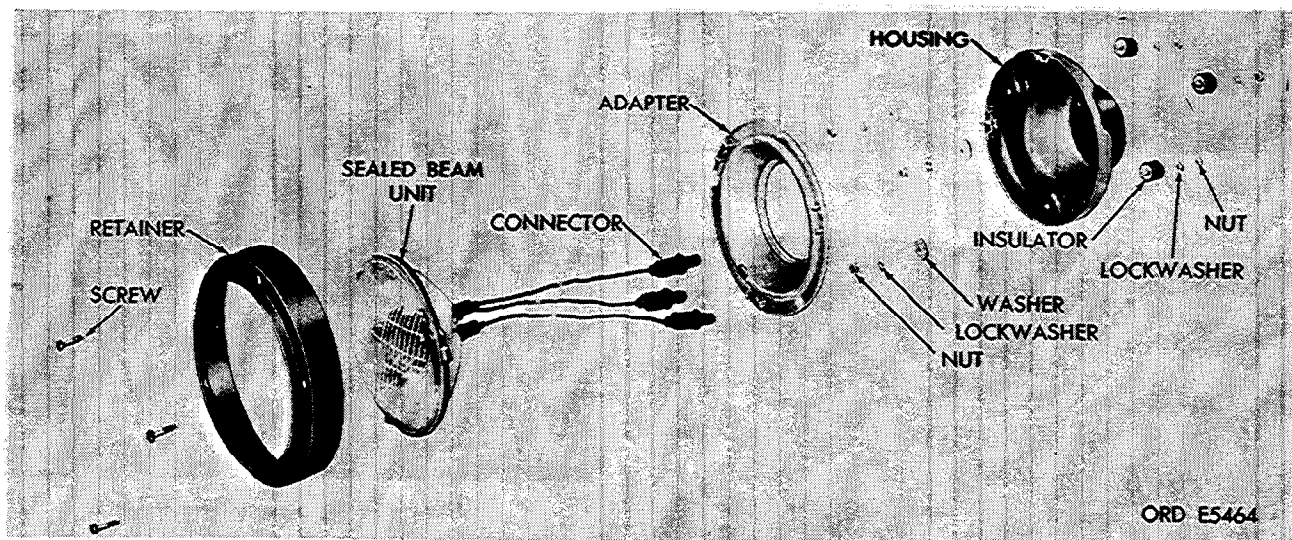

Figure 2-194. Headlight assembly—exploded view.
(3) Disassemble headlight assembly as shown in figure 2-194.